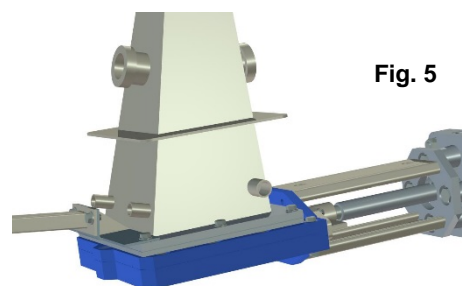

Fig. 5
Support details are the responsibility of the customer. Stafsjö will assist on request. An example is shown to the right, see fig. 5.
4. Make sure the JT is supported to avoid vibrations. To ensure life length and proper operation, it is necessary to add a support to the JT, see fig 5.